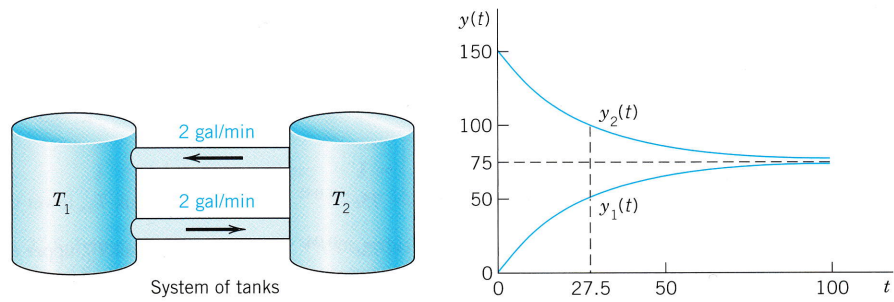

Fig. 77. Fertilizer content in Tanks  $T_1$  (lower curve) and  $T_2$
Tank  $T_1$  and  $T_2$  in Fig. 77 contain initially 100 gal of water each. In  $T_1$  the water is pure, whereas 150 lb of fertilizer are dissolved in  $T_2$ . By circulating liquid at a rate of 2 gal/min and stirring (to keep the mixture uniform) the amounts of fertilizer  $y_1(t)$  in  $T_1$  and  $y_2(t)$  in  $T_2$  change with time  $t$ . How long should we let the liquid circulate so that  $T_1$  will contain at least half as much fertilizer as there will be left in  $T_2$ ?
**Solution.** *Step 1. Setting up the model.* As for a single tank, the time rate of change  $y_1'(t)$  of  $y_1(t)$  equals inflow minus outflow. Similarly for tank  $T_2$ . From Fig. 77 we see that
Figure 77 shows the exponential increase of  $y_1$  and the exponential decrease of  $y_2$  to the common limit 75 lb. Did you expect this for physical reasons? Can you physically explain why the curves look “symmetric”? Would the limit change if  $T_1$  initially contained 100 lb of fertilizer and  $T_2$  contained 50 lb?